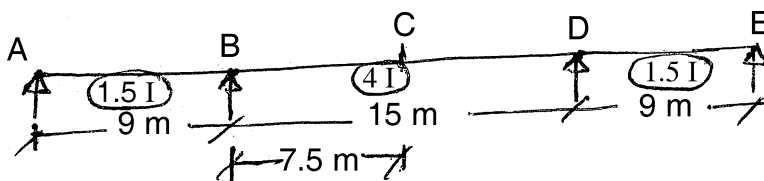

Fig. 1
1. Draw ILD for BM at C and shear force at C of continuous beam as shown in Fig. 1. **12**